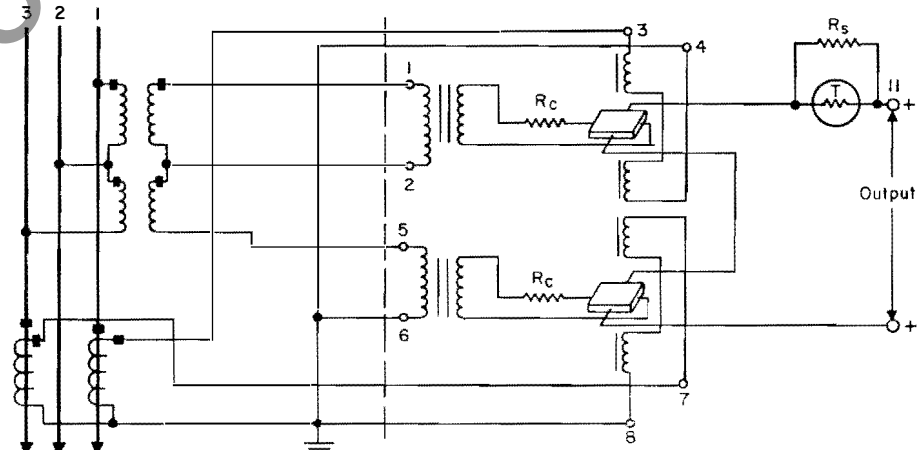

Figure 5: Internal and external wiring of 3-phase, 3-wire watt transducer.
**(b) Polyphase, two current-coil (2-element):** There are two current coils and two potential coils for the measurement of three-phase, three-wire power. They are also used on single-phase, three-wire, and on certain three-phase, four-wire applications (where the potential transformers are connected line-to-line). The outputs of the two Hall elements are connected in series. (See Figure 5).